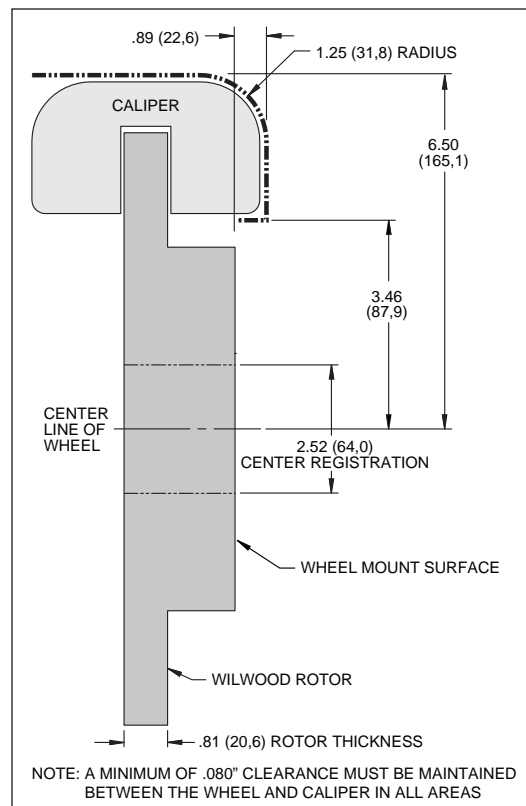

Figure 3. Wheel Clearance Diagram
- Review the wheel clearance diagram (Figure 3) to verify that there is adequate clearance with the wheels you will be using with the installation.
- Verify your wheel clearance using Figure 3.